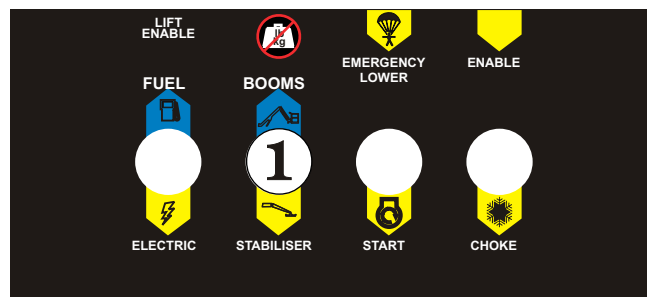

Figure 10.5 - Set Stabiliser/Boom Switch
Ensure the Boom/Stabiliser Switch (item 1 on the ground control box) (see Figure 10.5) is set to stabiliser.